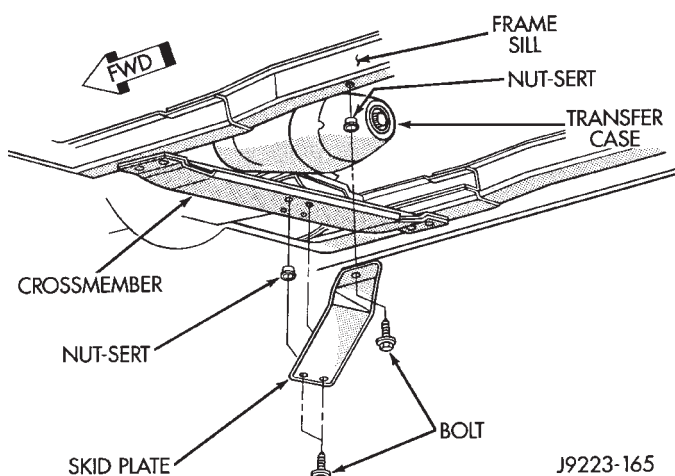

Fig. 1 Transfer Case Skid Plate
- (1) Support skid plate.
- (2) Remove bolts that attach skid plate to transmission support crossmember and frame sill (Fig. 1).
- (3) Remove support and skid plate from vehicle (Fig. 1).
- (1) Position and support skid plate at the frame sill and transmission support crossmember (Fig. 1).
- (2) Attach skid plate to frame sill and crossmember with the bolts (Fig. 1). Tighten bolts to 22 N•m (16 ft. lbs) torque.